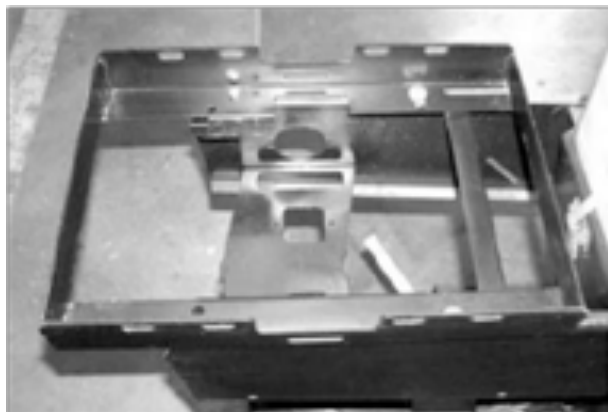

Figure 8
2. Orient SmartBox® cradle as shown (see Figure 8).